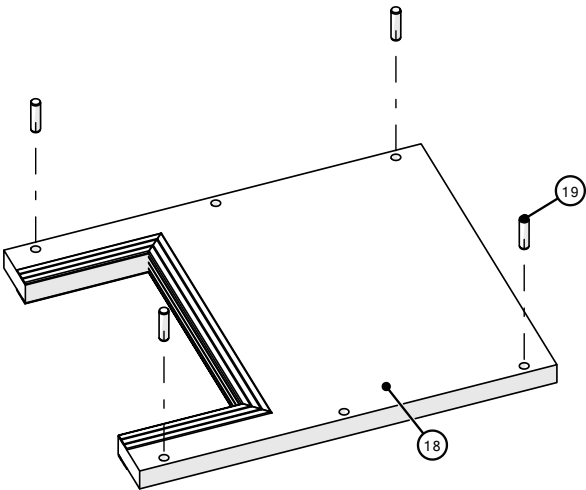

Figure 14
- 20. Insert wooden dowels into the holes of the top cover of HAT integration box, (Figure 14).